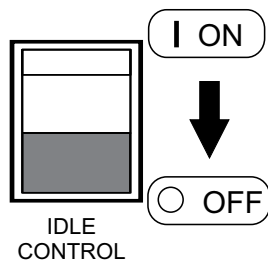

Figure 32. Idle Control switch (OFF)
2. Place idle control switch (Figure 32) in the **OFF** position.